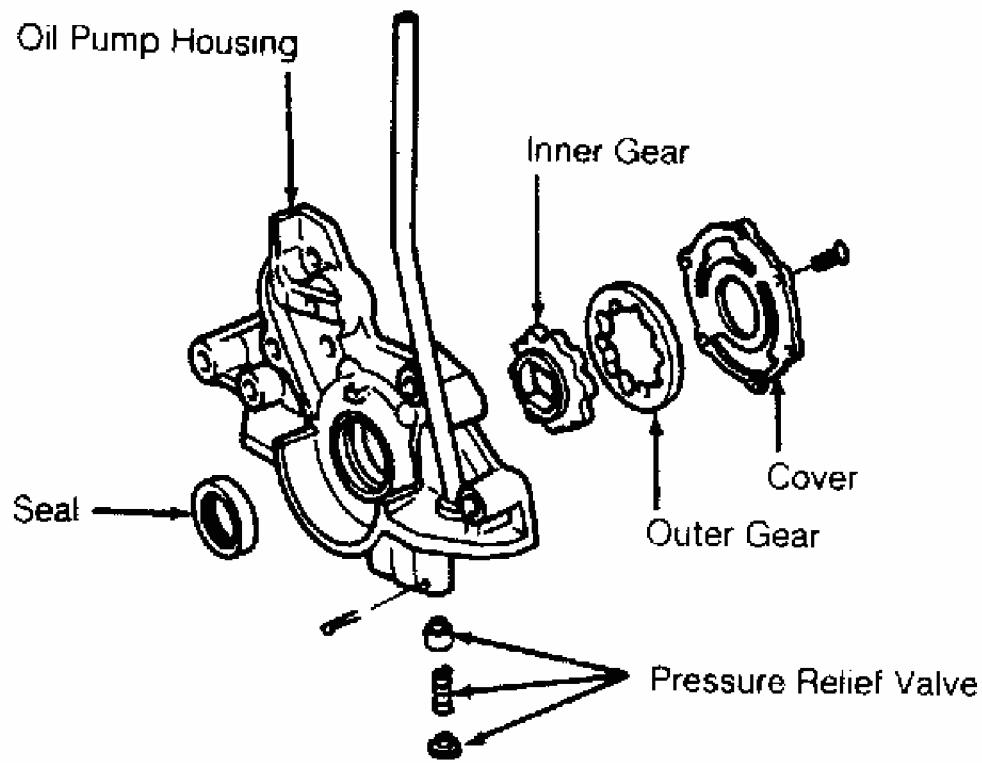

Fig. 15: Exploded View Of Oil Pump
3. Remove oil pan and oil pump pick-up tube. See OIL PAN under REMOVAL & INSTALLATION. Remove oil pump housing assembly. See Fig. 15. Carefully clean all gaskets and sealant from mating surfaces without damaging sealing/mating surfaces. Remove all sealant from components and bolts. Check oil pump clearances. Repair or replace pump if necessary. See OIL PUMP SPECIFICATIONS table.